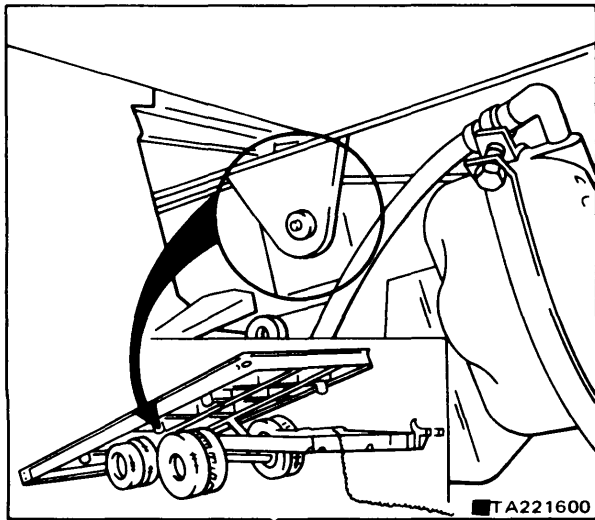

FIGURE 4-22. HP PLATFORM PIN AND GREASE ZERK.
4-88. Grease every 2,000 miles or 1 month at (2) zerks as shown in figure 4-22. Tighten 7/16 inch (11.1 mm) capscrews to 30 ft.-lbs. (4.15 kg/cm²) every 2,000 miles. Examine pins for wear after 25,000 miles.